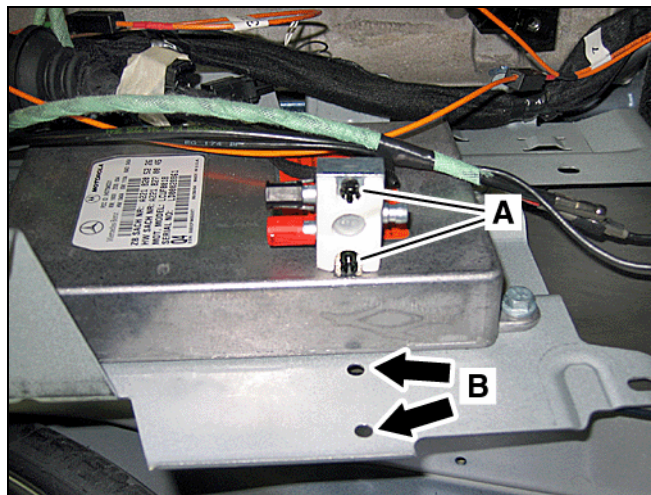

Figure 12
2. Mount the antenna splitter by snapping the two clips on its underside (A, Figure 12) into the holes (B, Figure 12) in the mounting plate, rear of the TELE AID control module.